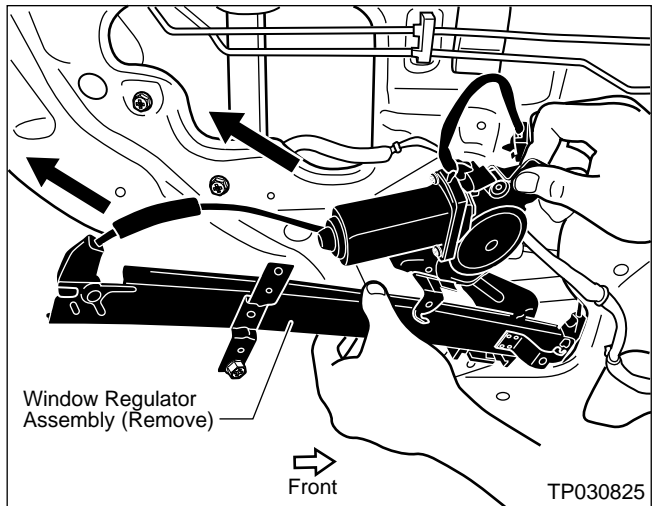

Figure 48
13. Remove the Window Regulator Assembly from the door (see Figure 48).